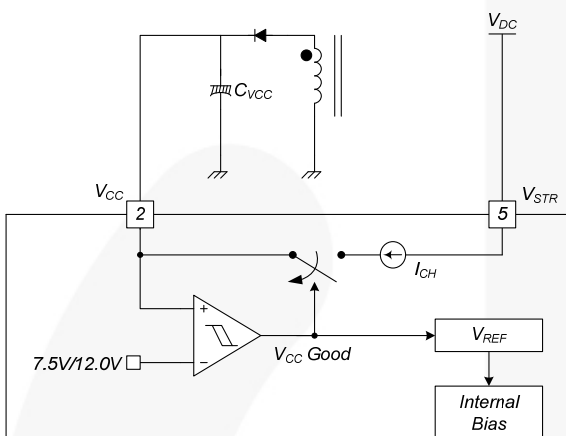

Figure 19. Startup Block
**1. Startup:** At startup, an internal high-voltage current source supplies the internal bias and charges the external capacitor ( $C_{VCC}$ ) connected to the  $V_{CC}$  pin, as illustrated in Figure 19. When  $V_{CC}$  reaches 12 V, the FSL137MRIN begins switching and the internal high-voltage current source is disabled. Normal switching operation continues and the power is supplied from the auxiliary transformer winding unless  $V_{CC}$  goes below the stop voltage of 7.5 V.